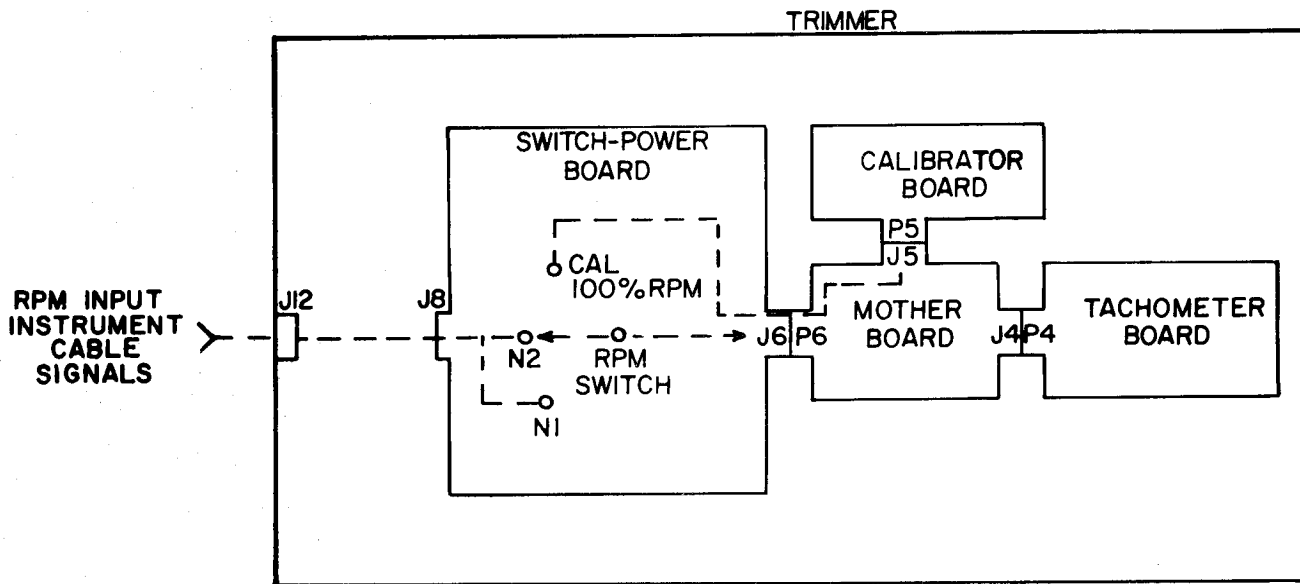

Figure 1-21. % RPM Signal Flow Diagram.
(5) **% RPM Signal Circuits.** The % rpm signal circuits are shown in figure 1-21. The % RPM indicator calibration signal generator is on the calibrator board in the trimmer. The circuitry of crystal XT1 and gates G2B, C, D forms a crystal controlled